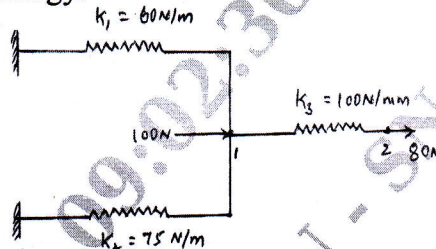

Fig. Q2 (a)
- a. Determine the displacement at node 1 and 2 in the spring system shown in Fig. Q2 (a) by using principle of minimum Energy. (10 Marks)